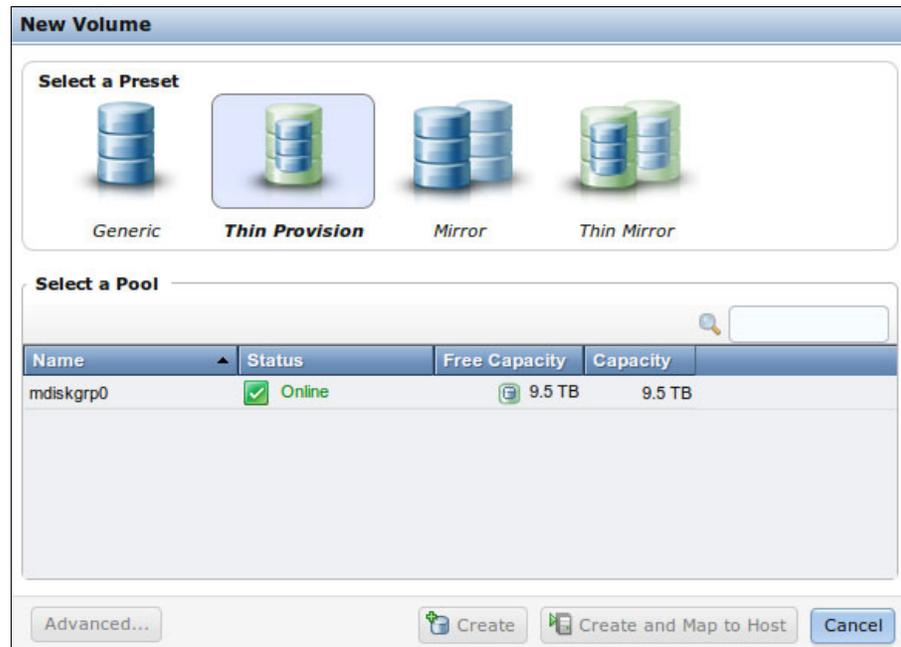

Figure 10-120 New Volume panel
5. In the New Volume panel (Figure 10-120), select **Thin Provision** as the preset type, and then select a pool. For this example, the pool is **mdiskgrp0**. The panel refreshes to show more detail.